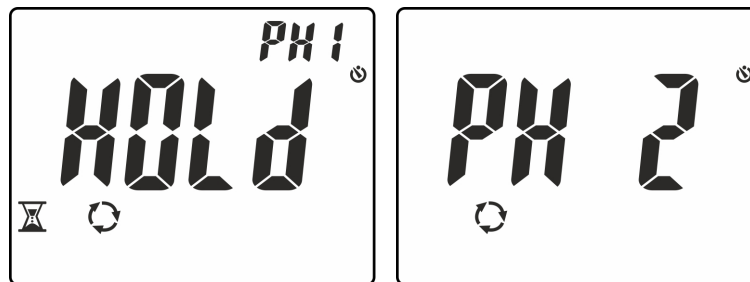

Fig. 12: Detecting phase L1 and waiting for phase L2
4. In conditions of correct voltage and frequency, the instrument shows message “**HOLD**”, symbols  and “PH1” and the buzzer sounds continuously, waiting for a stable voltage value on phase L1 to be detected (see Fig. 12 – left side).
5. **Do not remove the lead from phase L1** until message “**PH 2**” appears flashing on the display (see Fig. 12 – right side)